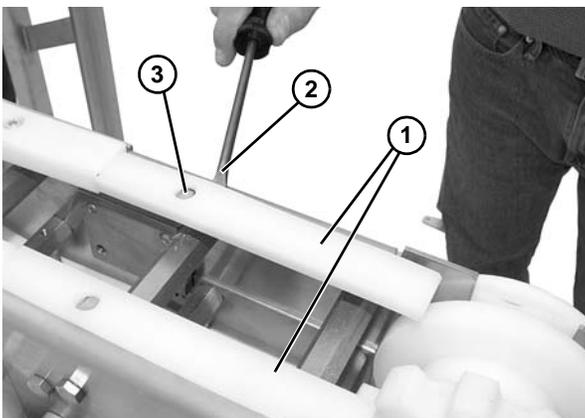

Figure 32
2. The wear strips (**Figure 32, item 1**) can be removed in two ways: Use a flat blade screw driver (**Figure 32, item 2**) to pry wear strip up and over tab (**Figure 32, item 3**) on rail **or** use a punch and hammer to flatten tab and remove wear strip.